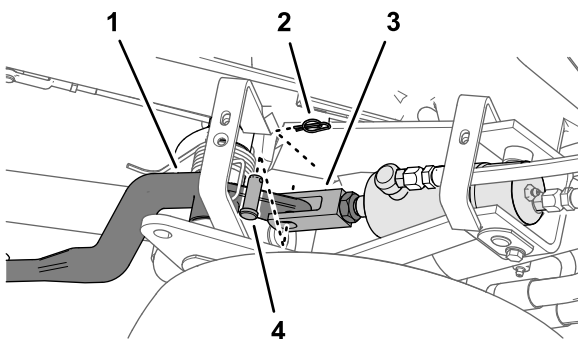
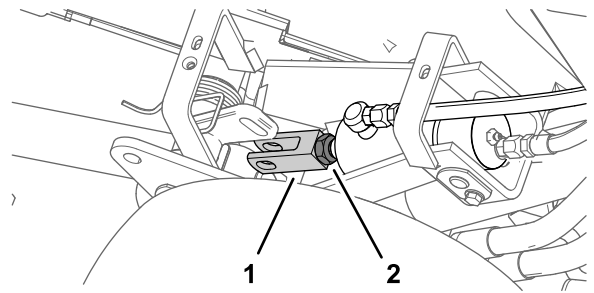

Figure 52
Figure 53
3. Loosen the jam nut securing the clevis fitting to the cylinder of the cutting-unit that needs to be adjusted (Figure 52).
4. Remove the retaining pin and clevis pin (Figure 52)
5. Rotate the clevis until you attain the desired height (Figure 53).
6. Assemble the clevis fitting to the lift arm with the clevis pin and retaining pin, and tighten the jam nut (Figure 52 and Figure 53).